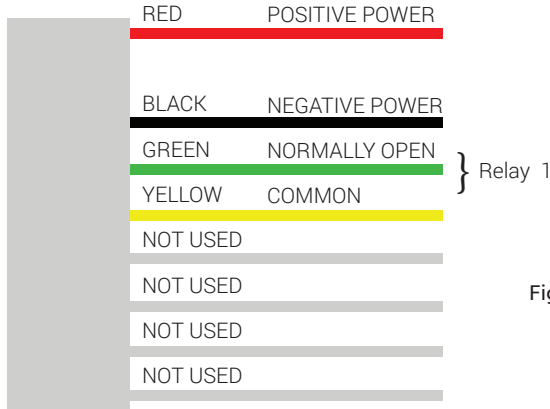

Fig. 4
Step 4. Wire the receiver harness according to the wiring diagram (See Fig. 4). For ease of installation the wires are color coded. For most standard gate installations you will wire the open input of your gate operator, with the COMMON and NORMALLY OPEN contact of Relay 1.